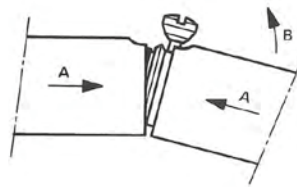

Fig. 5.
- Using the special screwdriver provided, slacken the nut (12) to free the snap ring (13).
- Line up the nut with the cutout in the measuring head (10), tilt the two components as shown in Fig. 5, and snap them together by pressing in the direction of arrow A and by moving in direction B.